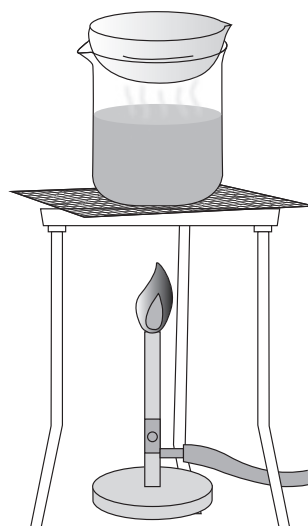

Figure 3
- d Place the evaporating basin on top of this beaker as shown in Figure 3. Light the Bunsen burner and evaporate the solution slowly until there is only a small amount left. Do not allow to boil dry.